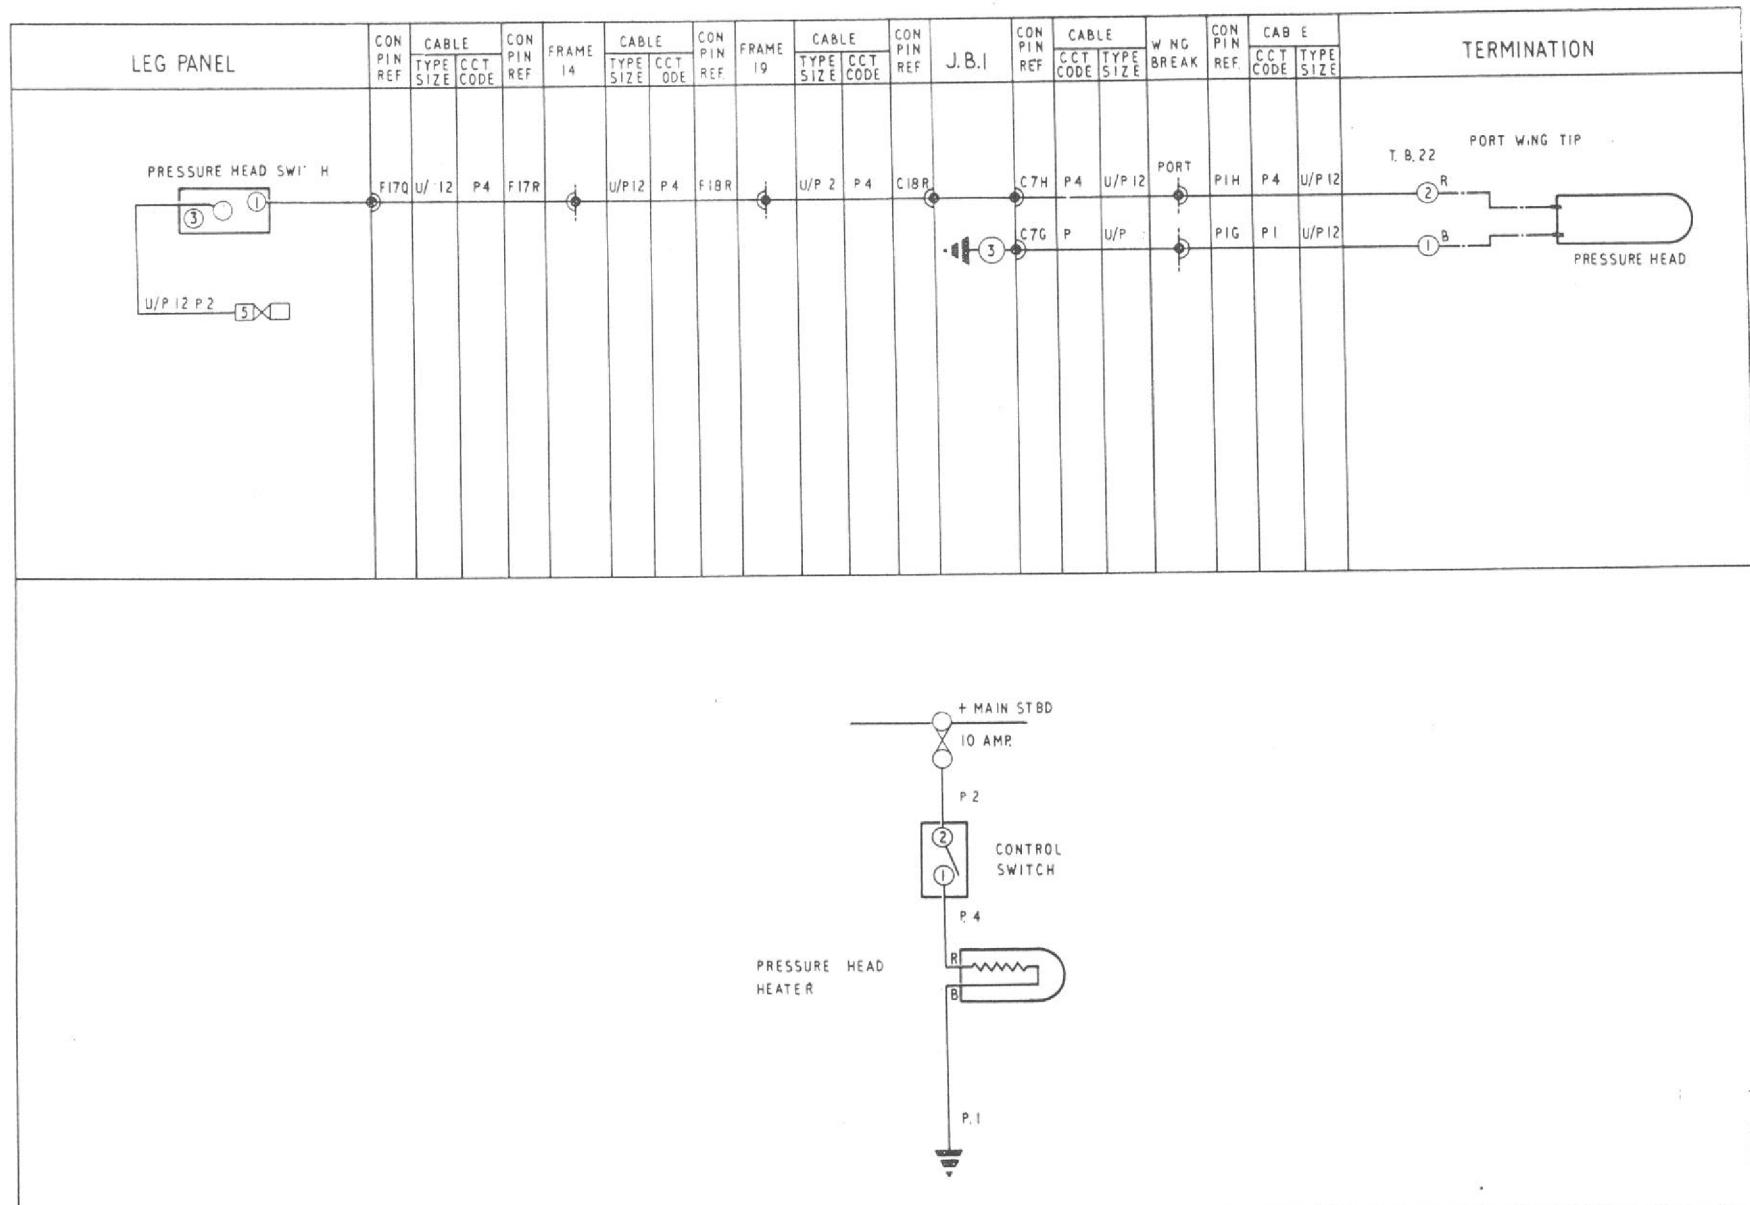

Fig.2. Pressure head heater (routing and theoretical)
4. The electric heater element in the pressure head is controlled by a single-pole ON/OFF switch located on the leg panel adjacent to the camera master switch. A routeing and theoretical diagram of the electrical heater circuit, the operation of which will be obvious, is given in fig.2.